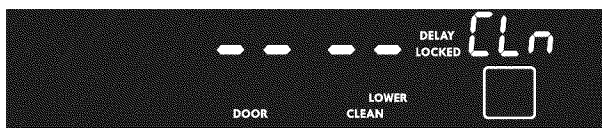

Figure 49: Display for using Delay Start with Self Clean
5. Press **Delay Start** (Figure 49).